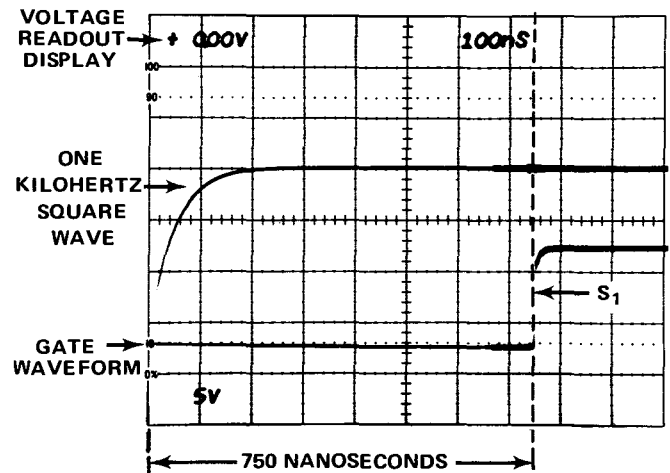

Fig. 3-6. P6055 Probe low frequency compensation point.
19. Adjust the Delay Time Multiplier control to position the S₁ measurement point 750 nanoseconds after the square-wave step function begins. See Fig. 3-6.